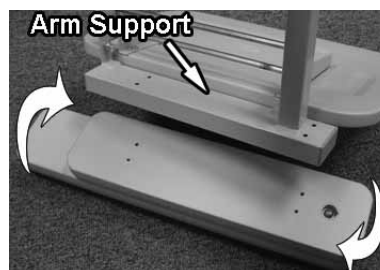

FIG. 5
3. After **(4) wood screws** are removed; Rotate **Pivot Arm assembly** 180 degrees (**FIG. 5**); Re-install **(4) wood screws** to secure arm in the new position.